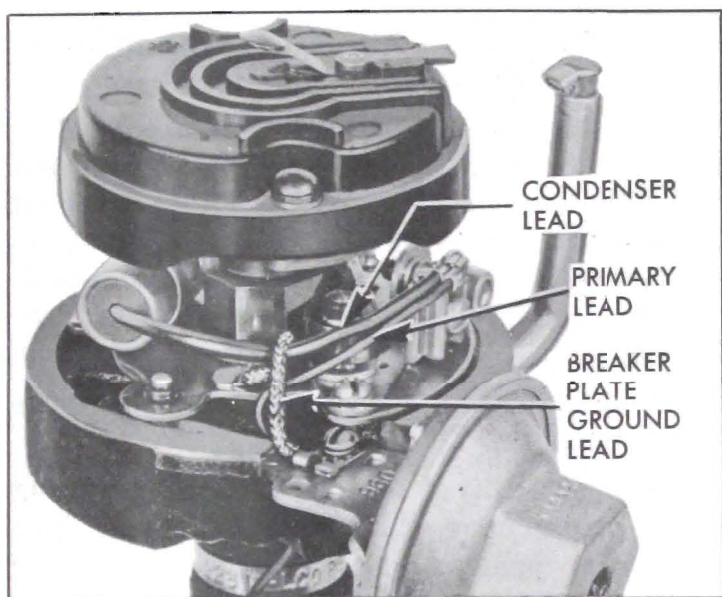

Figure 10-40—Locating Leads in Distributor
3. Install condenser and primary leads as shown in figure 10-40.